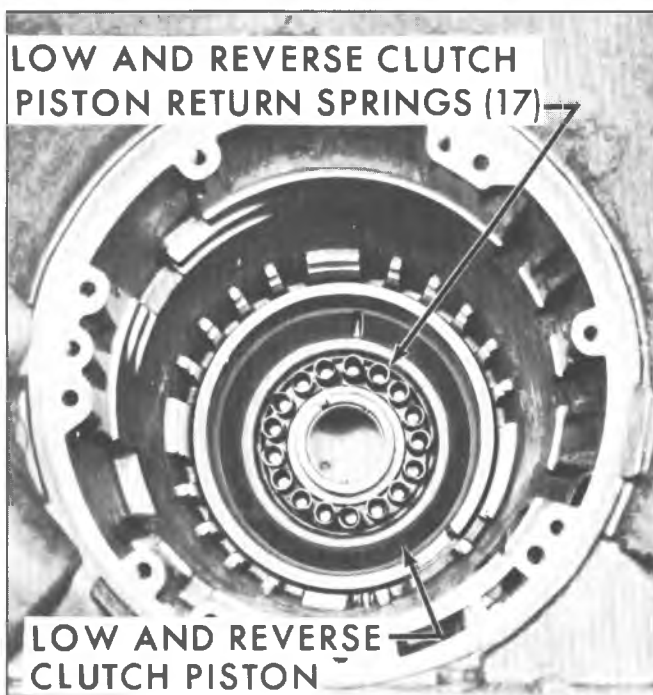

Fig. 46M--Low and Reverse Clutch Piston Springs
22. Remove seventeen (17) piston springs from piston (fig. 46M).